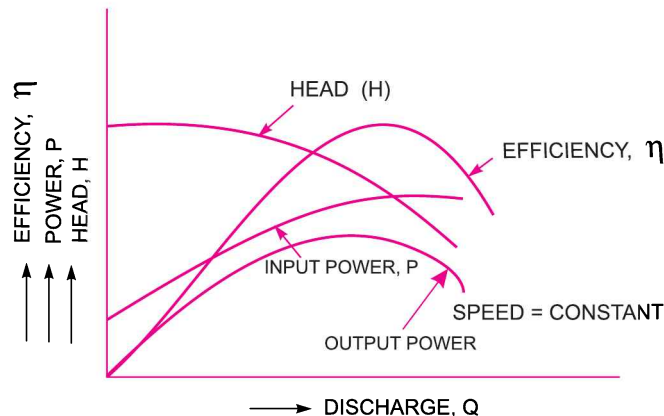

Fig. 19.15 Operating characteristic curves of a pump.
19.10.2 Operating Characteristic Curves. If the speed is kept constant, the variation of manometric head, power and efficiency with respect to discharge gives the operating characteristics of the pump. Fig. 19.15 shows the operating characteristic curves of a pump.